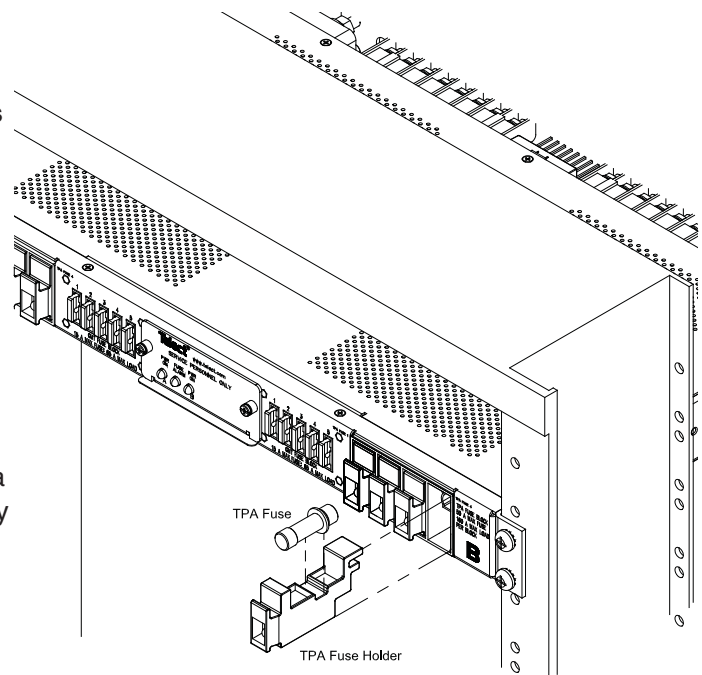

Figure 11 - Installing TPA Fuses
- For a TPA fuse, pull out the TPA fuse carrier and insert the operable fuse, as shown in Figure 11.